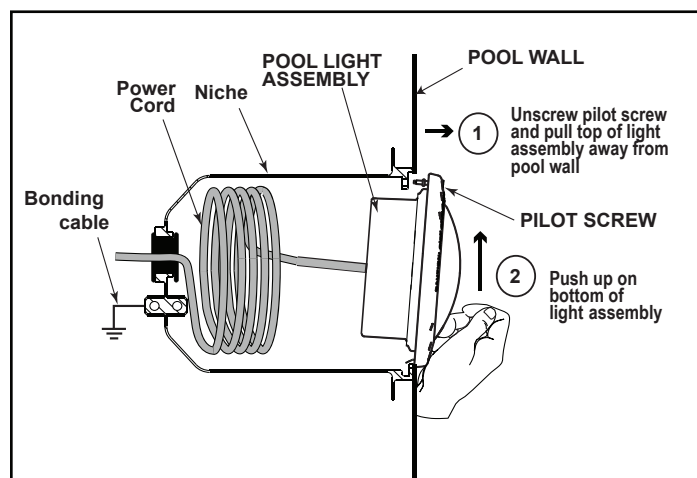

Figure 6. Removing the Jandy Pro Series WaterColors RGBW LED Light Assembly for Light Driver Replacement
3. To remove the light assembly, unscrew the special pilot screw at the top of the face ring, remove light assembly from niche and gently place assembly on the deck. It is not necessary to drain down the pool. See Figure 6.